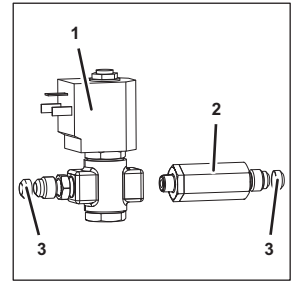

Fig. 70
6. Disconnect the non-return valve (Fig. 70/2) from the solenoid valve (Fig. 70/1).
7. Apply thread adhesive to the thread of the non-return valve (Fig. 70/2).
8. Attach the new solenoid valve (Fig. 70/1) to the non-return valve (Fig. 70/2).
9. Check the seals (Fig. 70/3) for damage.
Replace any damaged seals (Fig. 70/3).
10. Position the solenoid valve (Fig. 70/1) with the non-return valve (Fig. 70/2) within the unit.